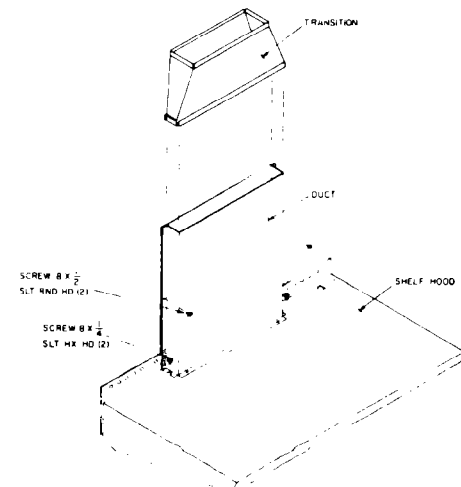

Figure 9
B. Mark and drill (2) 1/8" dial holes (1 each side) to fasten the thin duct provided with the hood to the back wall. See Figure 9.